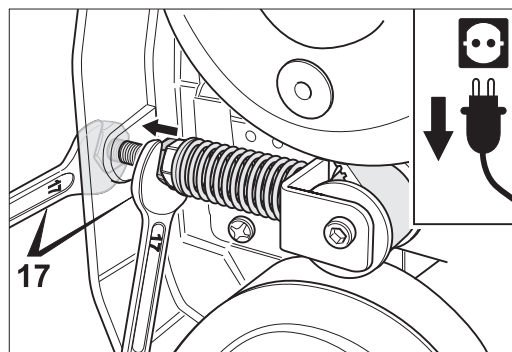

Fig. 37 Turn the counter nut back to the casing wall.
- 7 Loosen counter nut of tooth belt tensioner (using SW 17 wrench) and turn the nut all the way back to casing wall (Fig. 37).